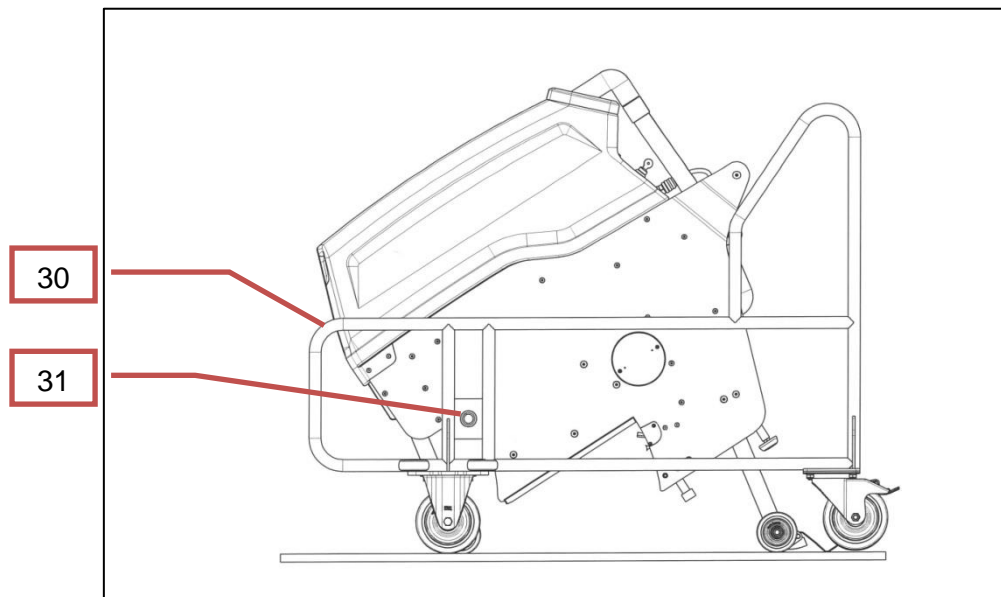

Figure 15 Moving into transport position
For transport, the machine is removed from the transport trolley with the shaft in front after the fixing axle (31) has been removed and driven into the shaft (see Fig. 15: Moving into transport position).